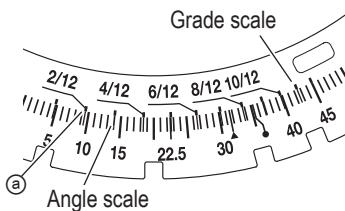

Fig. 39
- (1) Unlock the miter table by lifting up on the miter lock handle.
- (2) While lightly pressing down on the positive stop lever until it engages the detent lever, grasp the miter lock handle and rotate the table left or right to the desired angle.
- (3) Once the desired miter angle is achieved, press down on the miter lock handle to secure the table into position.
- (4) If the desired miter angle is one of the nine positive stops noted below, please see the Miter detent lever section on page 27.
- (5) Turn the LED light on and position the workpiece on the table for pre-alignment of your cut.
- (6) The miter scale (Fig. 39) indicates both the cutting angle on the angle scale and the gradient on the grade scale.
- (8) Therefore, to cut a workpiece at a grade of 2/12, set the indicator to position ③ as indicated in Fig. 39.